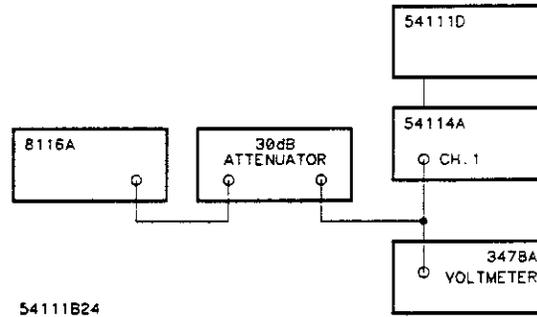

Figure 16-3. Probe Tip Cal Equipment Setup
- Hook up the equipment per Figure 16-3.